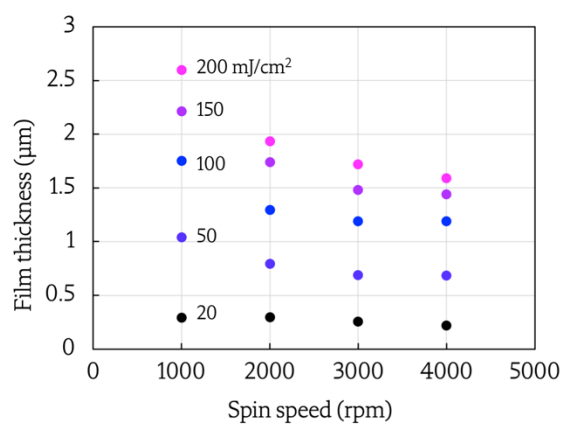

Figure 3. Film thickness as a function of spin speed and UV dosage.
3. Then ramp to desired rpm from fig 3, using an acceleration of 1000 rpm/second for 45 seconds.
To determine UV exposure, refer to Figure 3. No post exposure baking is required.